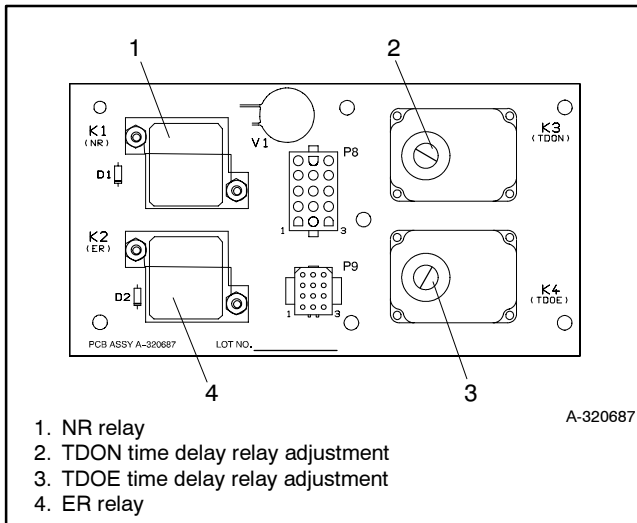

Figure 5-3 Interface Circuit Board with Time Delay Off Relays
Switches equipped with programmed transition have a power switching device with an OFF position and two time delay relays on the interface circuit board. See Figure 5-3. With programmed transition, power transfers occur from the normal-to-emergency or emergency-to-normal sources of power in three steps:
4. Locate the appropriate time delay relay on the interface circuit board. See Figure 5-3.